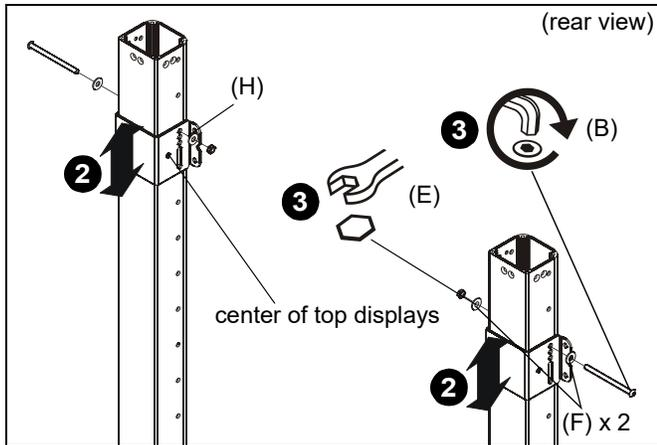

Figure 1
- Place clamp brackets (H) on columns in the position of where the center of the top displays will be on the cart with the diamond on the brackets being placed at the exact center location. (See Figure 1)
- Use 5/16-18 x 4 1/2" button head cap screw (B), two 5/16" washers (F) and 5/16-18" lock nut (E) to secure each clamp bracket (H) to column. (See Figure 1)